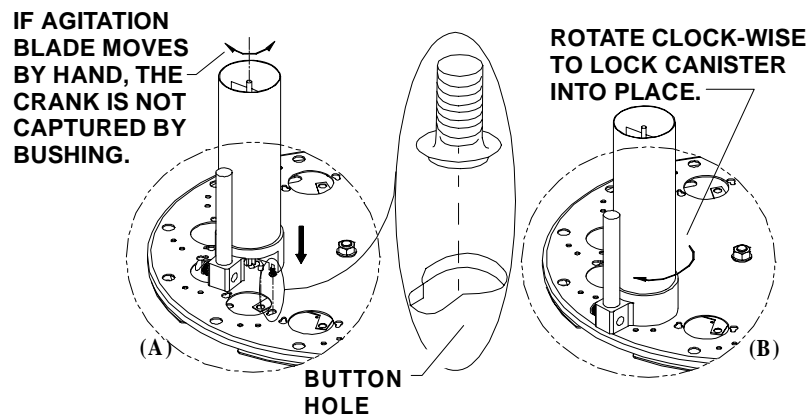

Figure 3 BUTTON HOLE MOUNTING
4. Align the screw heads with the button holes on the turntable for the front canister position and rotate the agitation blade until the agitation crank is aligned with the nylon bushing. (Figure 3 on page 7)
button holes, as shown in figure 3-A. Rotate canister clockwise locking it into place as shown in Figure 3-B.